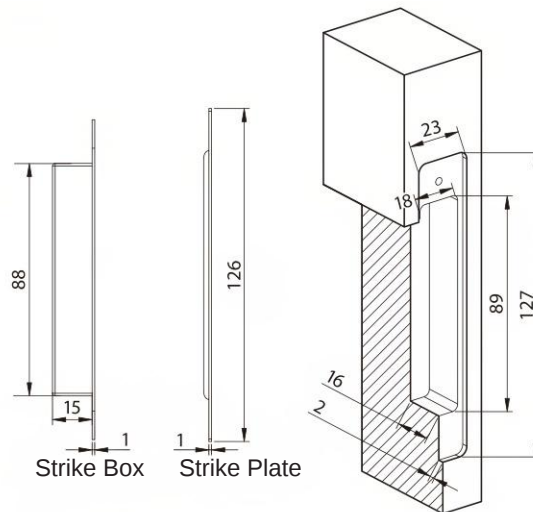

Fig.2
1. Drill the hole for the strike box as shown in Fig.2 & Fig.3.
2. Install the strike plate as shown in Fig.2: width 23mm, length 127mm.